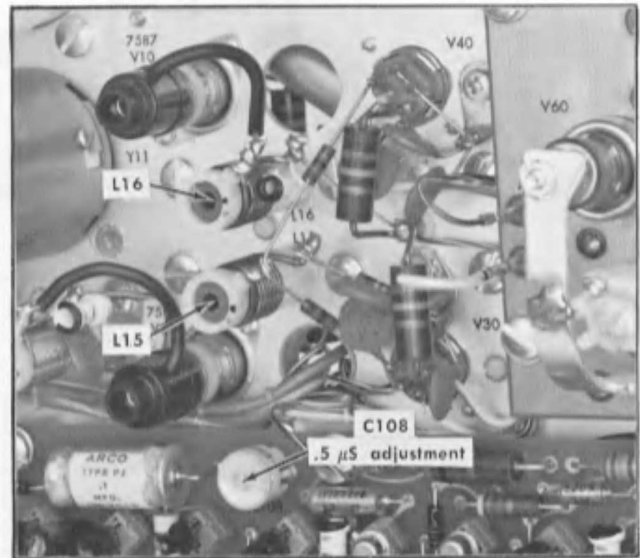

Fig. 6-9. .5 μS marker adjustment C108 and 50 MHz (20 ns) adjustment L16, L15.
- f. Adjust C108 (Fig. 6-9) for one .5 μS time marker per division.